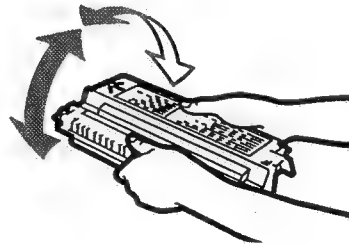

Figure 1-11
- 1) Remove the cartridge from the copier, and rotate it several times as shown in Figure 1-11.